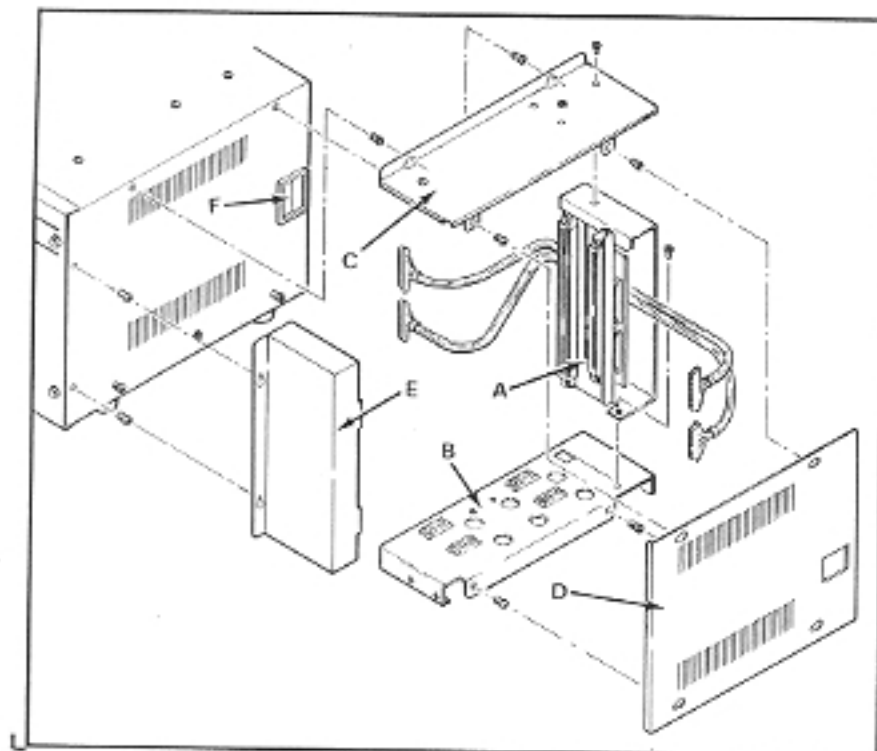

FIGURE 4—KBXU KIT
04.03 The KBXU is provided in kit form (Figure 4); it must be assembled and installed on the MKSU-203 per Paragraph 04.10.
04.11 Unpack the KBXU kit, refer to Figure 4 and verify that the following parts are present:
04.12 Refer to the relationship of the parts as indicated in Figure 4 and perform the following:
- 2) Remove the rubber grommet (F, Figure 4) from the right-hand side of the MKSU. Use a sharp knife and cut an "X" (from corner-to-corner) in the grommet. Reinstall the grommet.